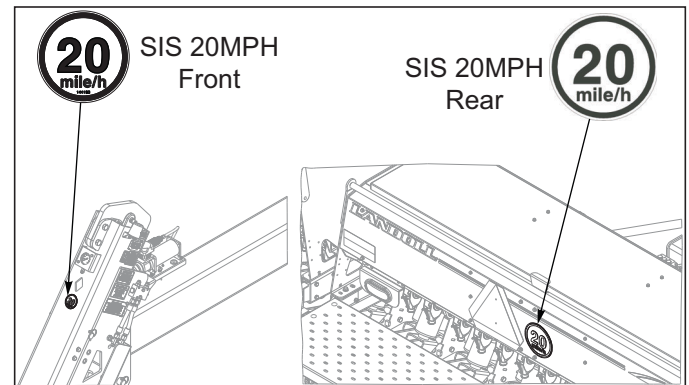

Figure 4-5: SIS 20MPH Decal
2. The Grain Drill should be transported only by a tractor required for field operation. The implement weight should not exceed more than 1.5 times the tractor weight. Unless noted on the implement, maximum transport speed is 20 mph for the implement and is designated on the speed identification symbol (SIS) located on the front and rear of the implement *See Figure 4-5*.